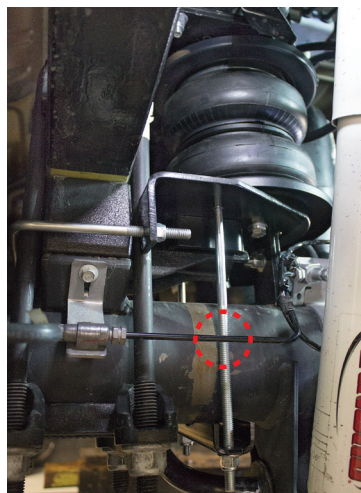

fig. D.22
6. Figures D.22 & D.23 show the lower bracket installed. Note the location of the carriage bolts in conjunction with the hard brake and ABS lines.